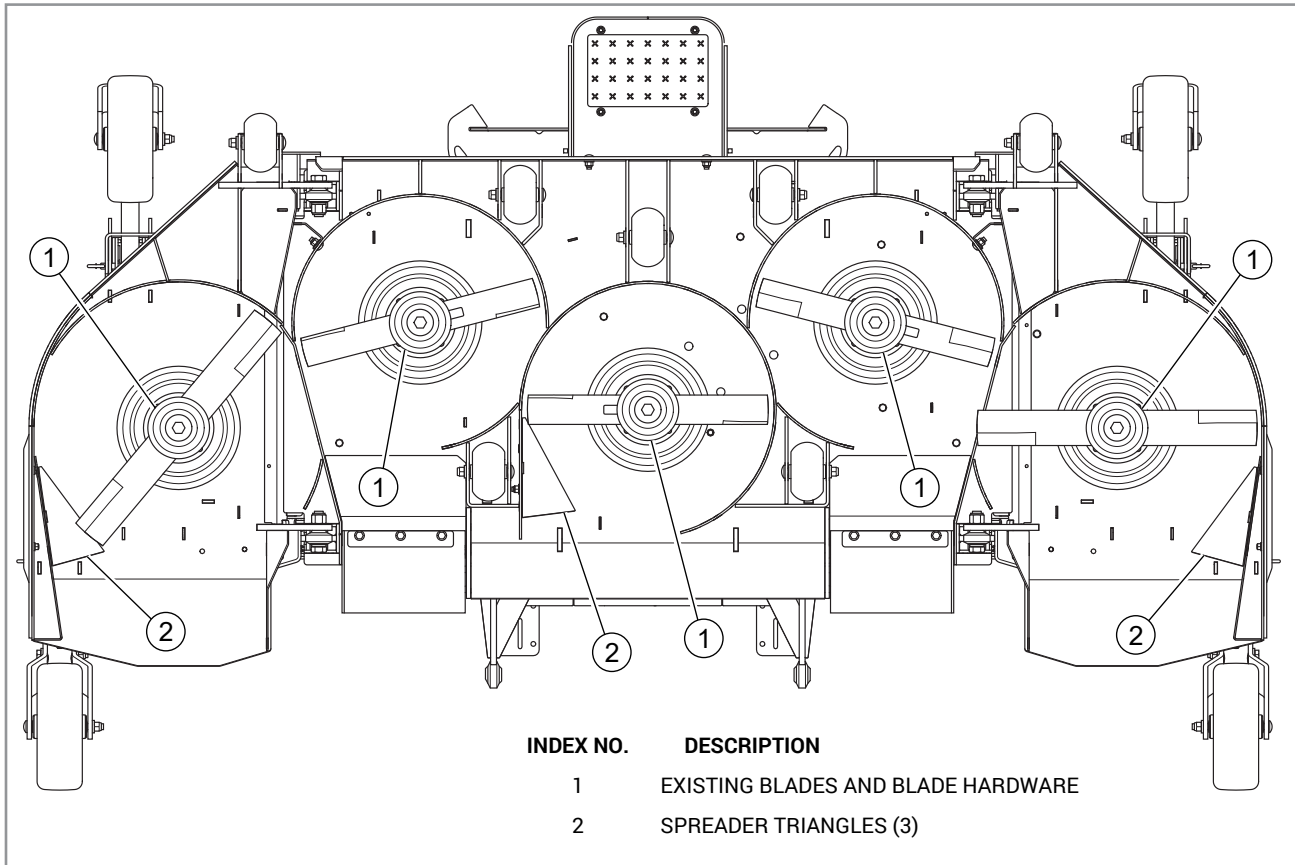

FIG. 1
6. Remove the existing blades. Keep the hardware. Keep the blades to re-use if the mulch kit is removed from the decks. FIG. 1
7. Remove the spreader triangles. Keep the spreader triangles and hardware to re-install if the mulch kit is removed from the decks. FIG. 1